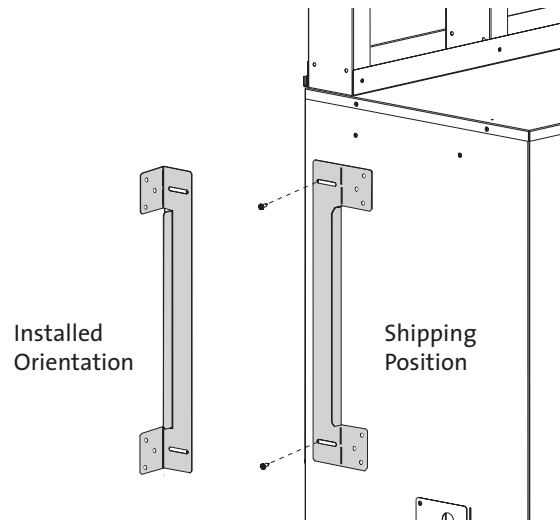

Figure 4.3.
5. Bend the nailing flanges on the two Side Stand-off Brackets out 90° from the flat shipping position and adjust each bracket as necessary to accommodate the thickness of the non-combustible face material. See Figs. 4.3. and 4.4.